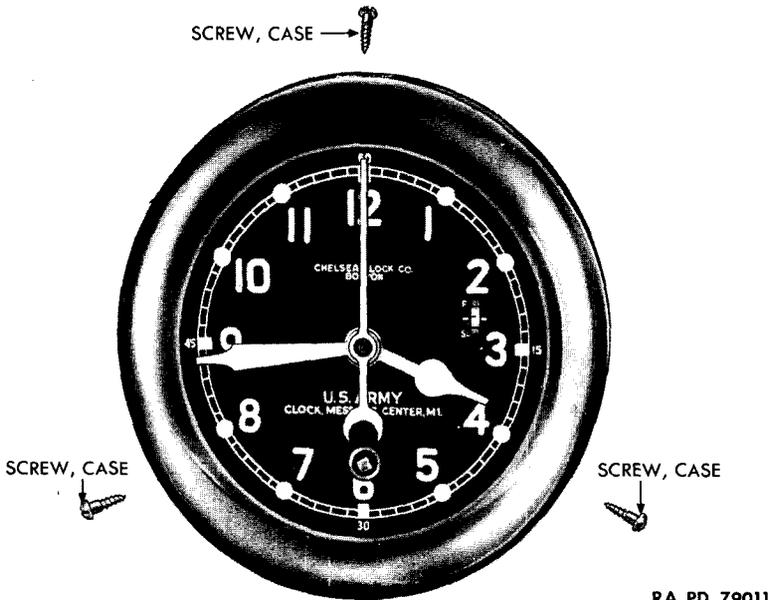

Figure 202 — Message Center Clock M1 — Removed From Carrying Case
a. **Remove Clock From Carrying Case.** Remove the three screws which attach clock to mounting panel in wooden case and remove the clock (fig. 202).
w. **Replace Clock in Mounting Case** (fig. 202). Place the clock against the mounting panel of the case, aline the screw holes, and secure with three mounting screws.